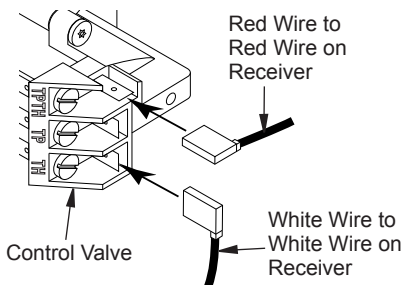

Figure 20 - Connecting Wires
9. Connect wires from hardware pack (with remote receiver bracket) to control valve at the TPTH and TH locations as shown in Figure 20. Connect other ends of these wires to remote receiver wires. **Note:** Make sure excess wire does not interfere with burner or pilot.
3. Attach wires to control valve as shown in Figure 20.